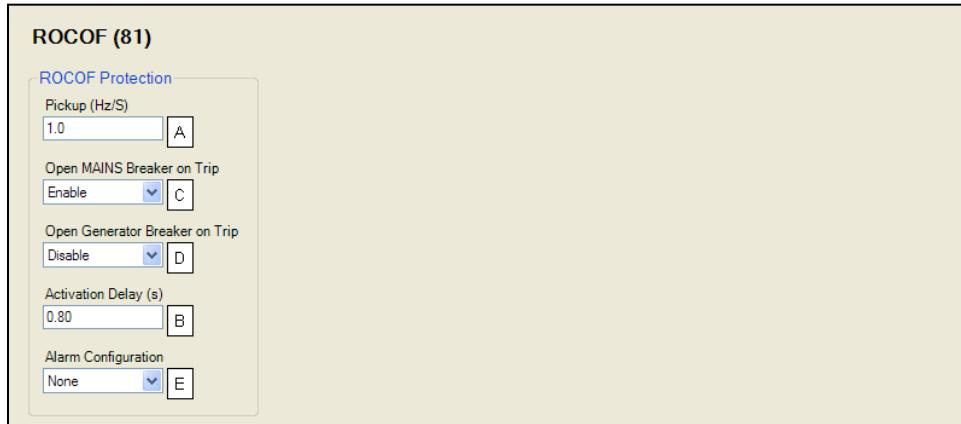

Figure 4-57. ROCOF Protection Settings
BESTCOMSPlus ROCOF protection settings (DGC-2020, Generator Protection, Loss of MAINS Protection, ROCOF (81)) are illustrated in Figure 4-57.